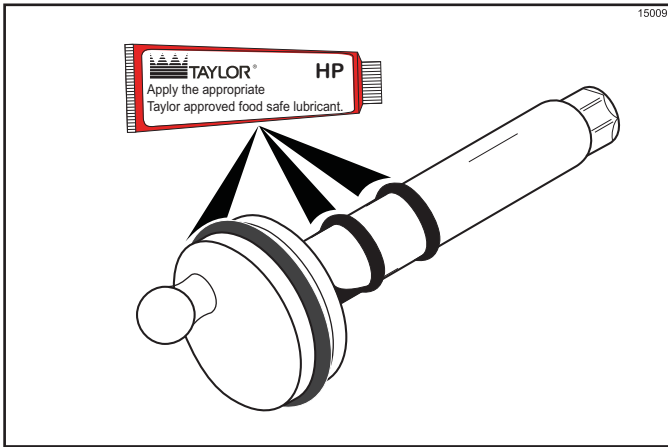

Figure 6-34
- Slide the large black O-ring and the two smaller black O-rings into the grooves on the driveshaft. Thoroughly lubricate the O-rings and shaft. **Do not** lubricate the hex end of the shaft. (See Figure 6-34.)